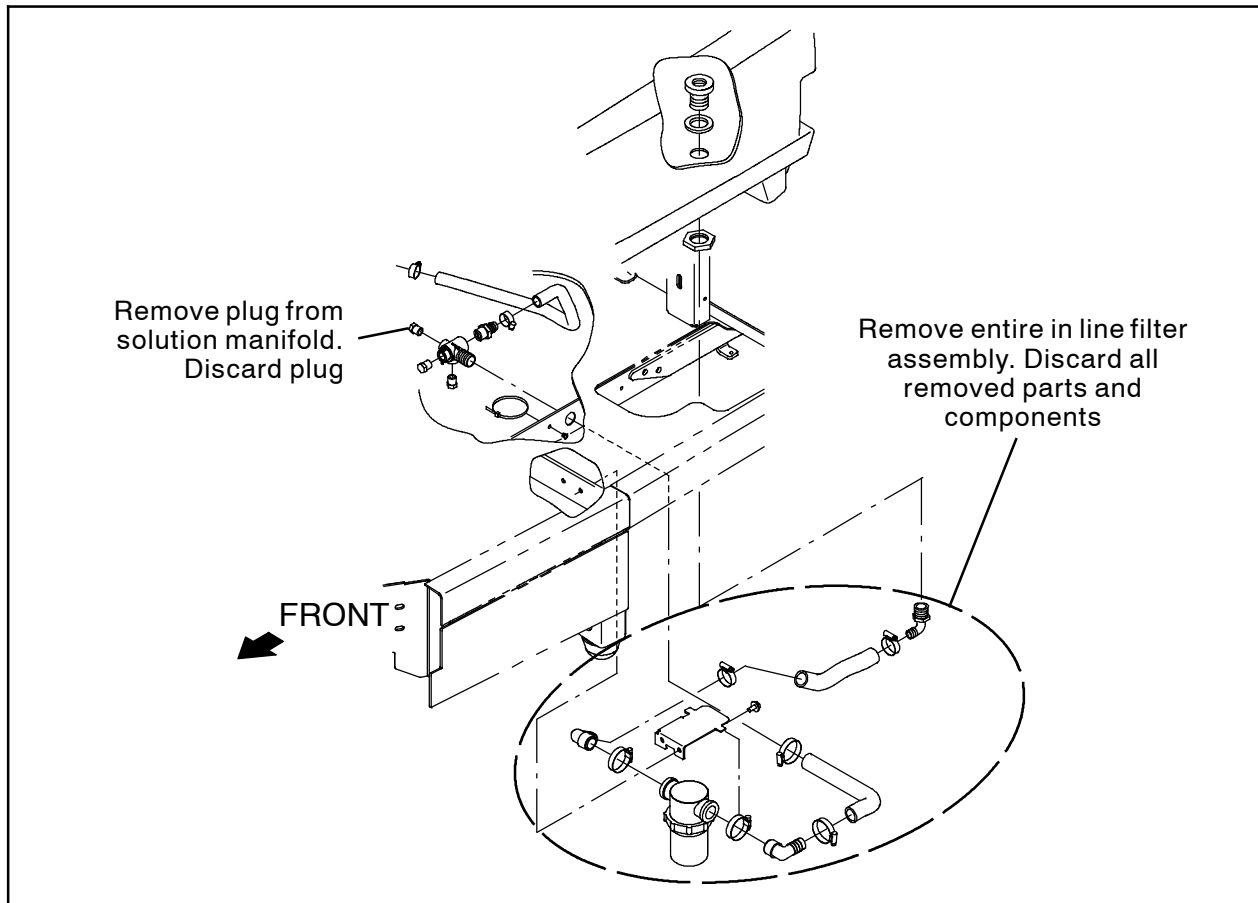

FIG. 1
2. Remove the entire in line filter assembly from the machine. Discard the in line filter assembly, hardware, fittings, hoses, and clamps. (Fig. 1)
3. Remove one plug from the solution manifold. Discard the plug. (Fig. 1)